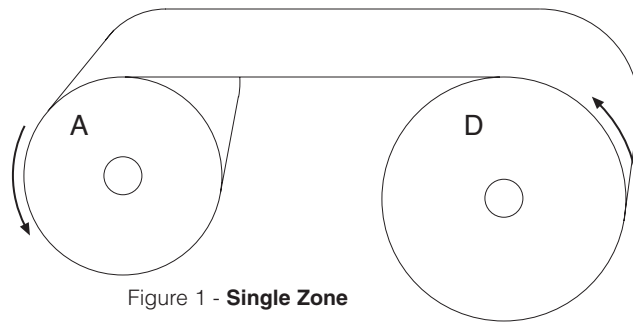

Figure 1 - Single Zone
Simple machines, such as rewinders or inspection machines, may have only one zone (see Fig. 1). The primary goal here is to control tension so that the rewrap package is accurately wound. Typically, the winder (A) would be a simple line speed motor drive, with tension controlled by a brake system at the unwind (D). The method of brake control (i.e.: open or closed loop) would be determined by the accuracy demands of the application. For simple diameter compensation, an ultrasonic sensor measuring the diameter of the roll can produce satisfactory results. Greater accuracy may require closed loop feedback, such as from a dancer or load cell.